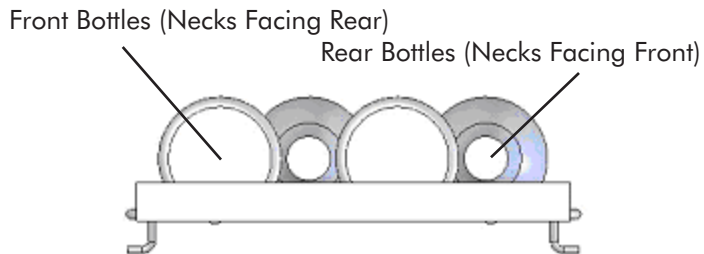
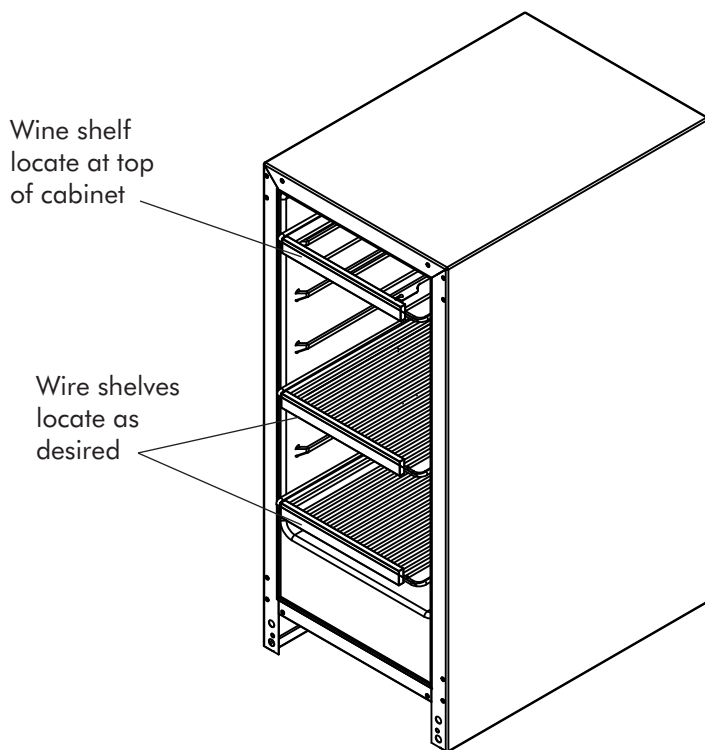

Figure 4
Figure 5
The door should be parallel to the sides and top of the refrigerator. If alignment is necessary the door may be adjusted by loosening the 2 screws which secure the hinge adapter brackets to the door and adjusting the door side to side. Use a 5/32" allen wrench for this procedure. (See Figure 4 below).
Remove the top hinge pin from the hinge with an 1/8" allen wrench. Remove the door by angling the top of the door outward and lifting the door off the bottom hinge. (See detail in Figure 4).
The wine rack pull-out shelf holds four (4) bottles. See Figure 4 for typical wine bottle orientation. The wine rack should be located at the top part of the interior cabinet. Place the remaining shelves as desired (see Figure 5).